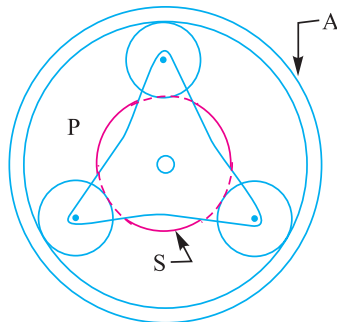

Fig. 13.48
19. An epicyclic gear train for an electric motor is shown in Fig. 13.48. The wheel  $S$  has 15 teeth and is fixed to the motor shaft rotating at 1450 r.p.m. The planet  $P$  has 45 teeth, gears with fixed annulus  $A$  and rotates on a spindle carried by an arm which is fixed to the output shaft. The planet  $P$  also gears with the sun wheel  $S$ . Find the speed of the output shaft. If the motor is transmitting 1.5 kW, find the torque required to fix the annulus  $A$ .